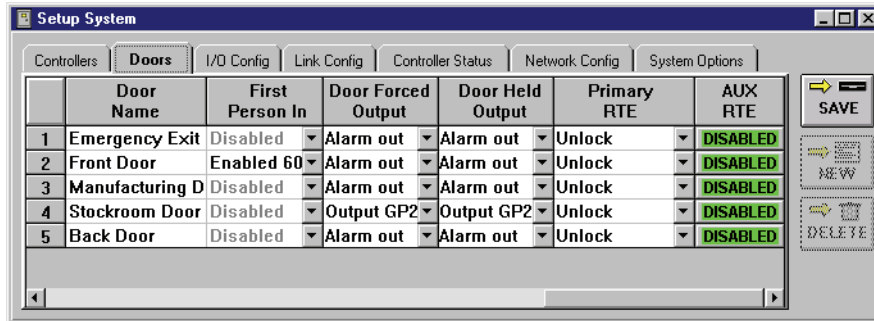

Figure 3-27: Set the First Person In Value
4. The resulting window should look similar to Figure 3-27 on page 37 of this section.
1. To set the door forced and door held alarm output values, click on the Setup ⇒ System pull-down menu or click on the  tool bar button. Then click on the **Doors** tab (see Figure 3-27 on page 37 of this section). If the “Door Held Output” column does not appear in the window, use the scroll bar at the bottom of the window and scroll to the right until this column appears.
1. To set the door forced and door held alarm output values, click on the Setup ⇒ System pull-down menu or click on the  tool bar button. Then click on the **Doors** tab (see Figure 3-27 on page 37 of this section). If the “Door Forced Output” column does not appear in the window, use the scroll bar at the bottom of the window and scroll to the right until this column appears.